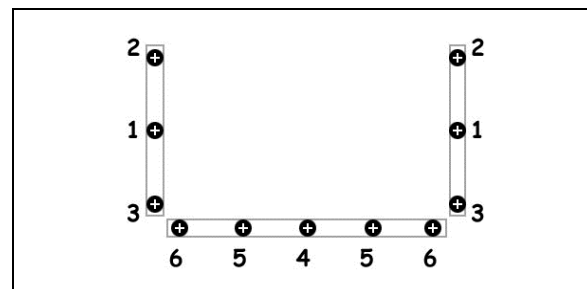

FIGURE 72 : CORRECT TIGHTENING SEQUENCE
9. While a helper is pressing on the window from outside, install the awning window clamping frame and tighten screws according to the sequence shown in FIGURE 72;